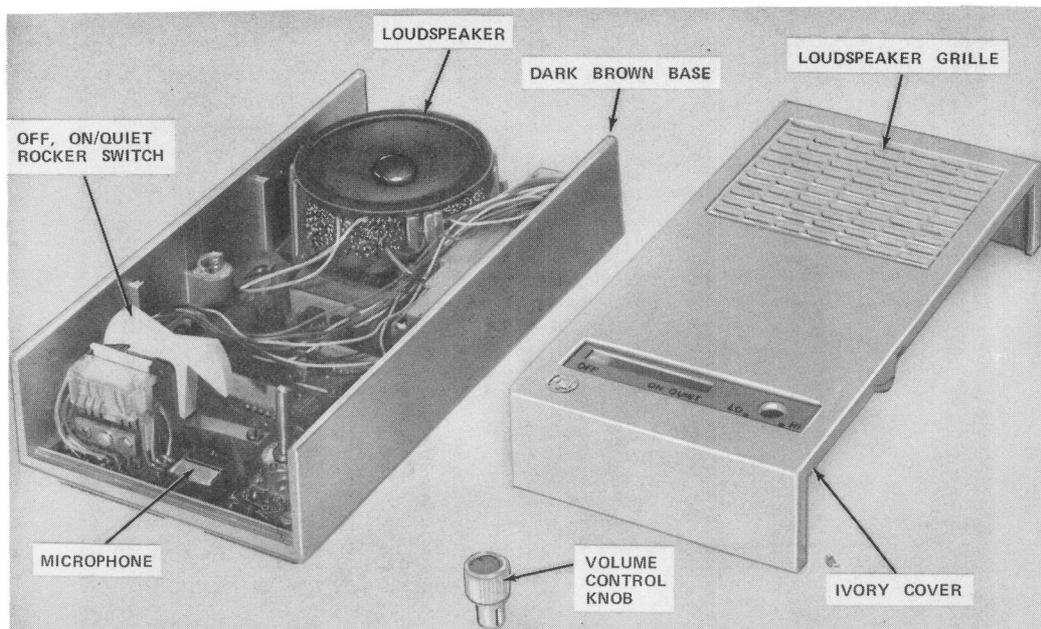
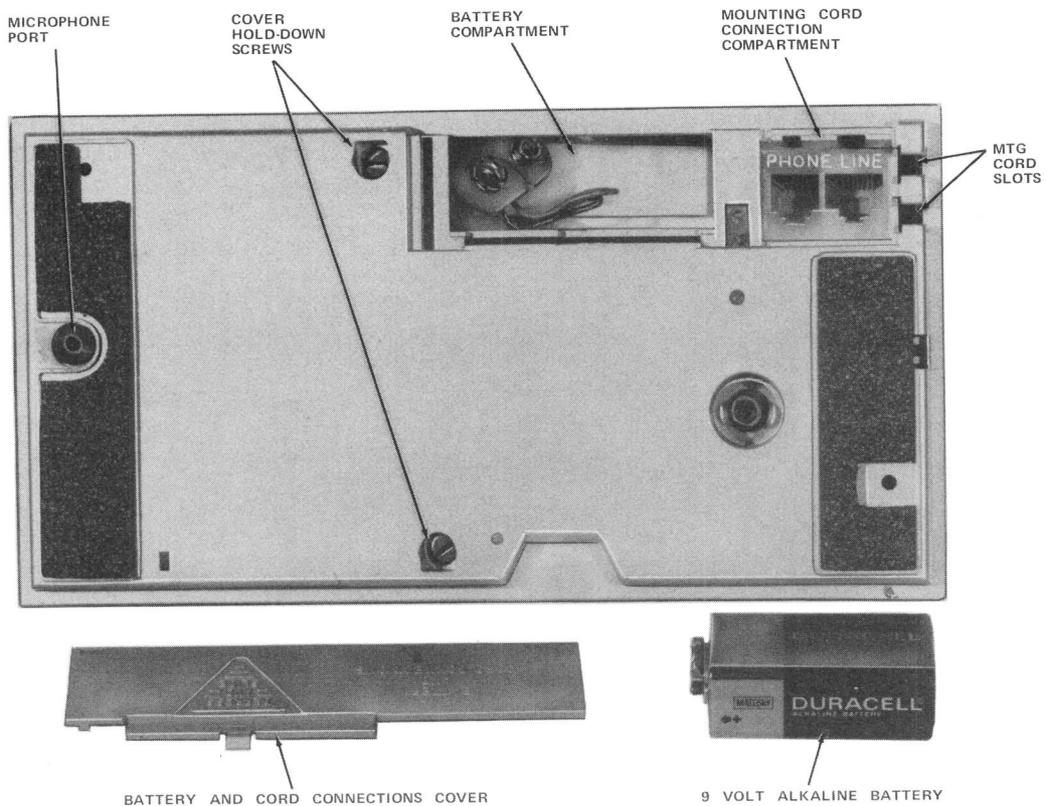

Fig. 3—TELEHELPER Speakerphone With Cover Removed
Fig. 5—Bottom View of The TELEHELPER Speakerphone With Battery and Cord Connections Cover Removed
2.01 The speakerphone is available only with a dark brown (-104) base and an ivory (-50) cover (Fig. 3). The base contains a sliding battery and cord connections cover (Fig. 5). Under this cover are two compartments; the larger one is for a standard 9-volt alkaline battery, the other contains two modular jacks. The eight conductor jack is labeled LINE, the six conductor jack is labeled PHONE (Fig. 5).
3.03 Remove battery and cord connections cover on bottom of speakerphone. Plug the standard D4BU mounting cord into the jack labeled LINE (Fig. 5) dressing the cord through the plastic cord
3.06 Connect and place battery in battery compartment. Replace battery and cord connections cover (Fig. 5). Cover activates a switch which connects battery into circuits.